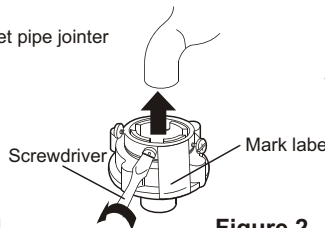
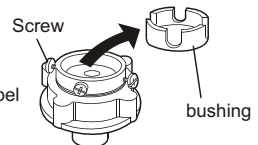

Figure 2
Figure 3
3. Extend the drain hose from the installation hole at the right side of the base frame. Fix the drain hose onto the base frame with the drain hose frame and fasten the screw. Then set the drain hose hook on the drain hose and hang the drain hose on the hanging hole of the cabinet. (As indicated in Figure 3)
3. Loosen the screw till the water tap can be accessed. Put the jointer of the water inlet hose on the tap. See to Figure 2. (If the tap diameter is too large and the jointer can not be set on the water tap, please loosen the four screws and take out the bushing in the jointer. See to the figure3.)